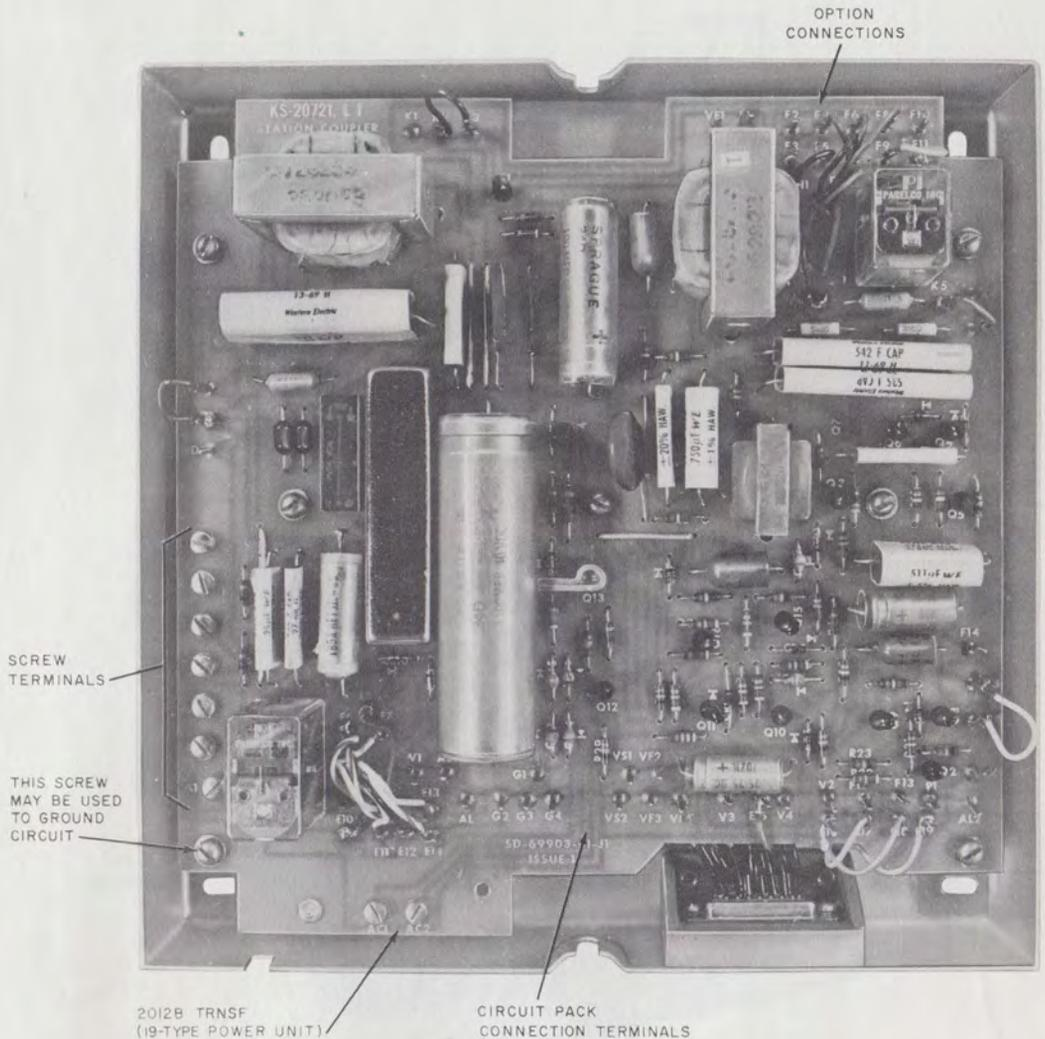
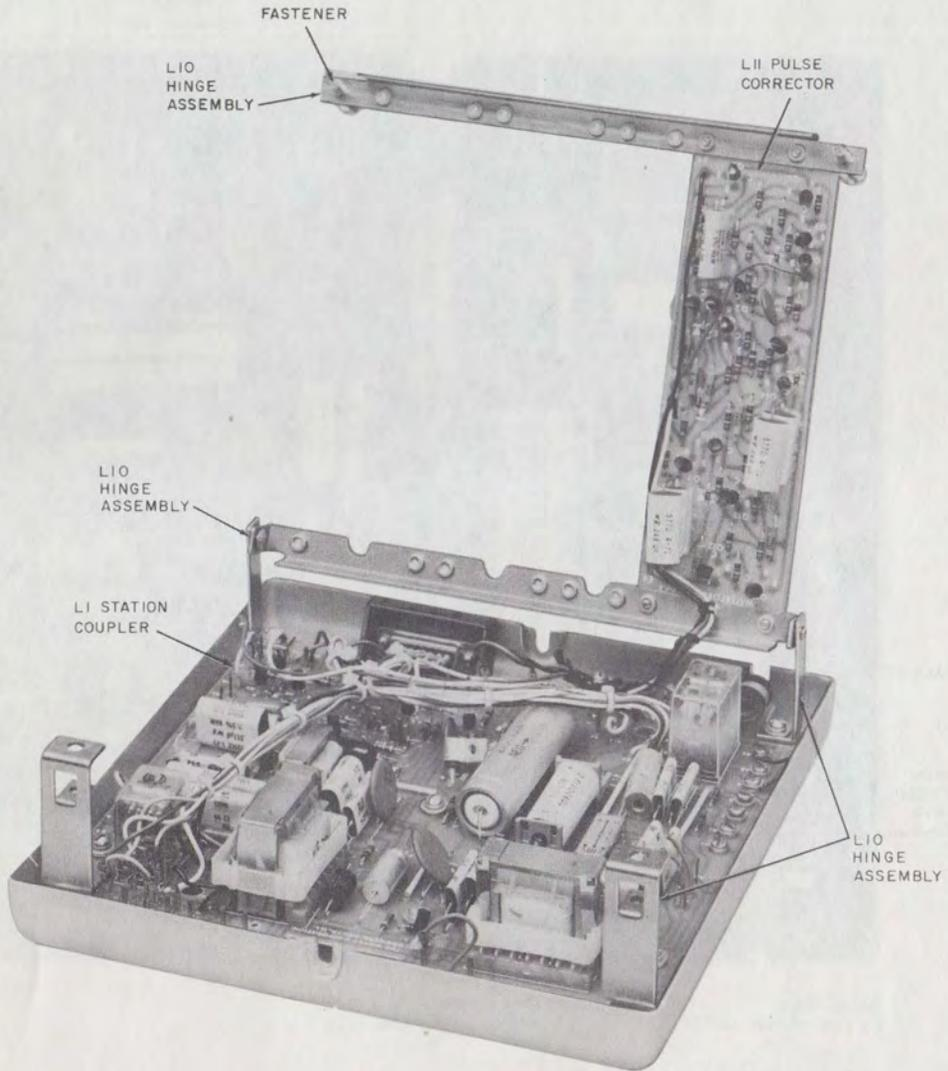

Fig. 2—KS-20721, List 1, Station Coupler, Cover Removed
Fig. 3—KS-20721 Station Coupler Showing Optional Circuit Pack
- Revise Fig. 3 and 6
- Assembly, Hinge, KS-20721, L10 (Fig. 3)
- 2.02** The KS-20721, List 1 station coupler (Fig. 2) is the basic unit, designed to be field equipped with a KS-20721, List 10 hinge assembly for mounting the optional circuit pack (Fig. 3). The circuit pack is equipped with quick connect connectors for easy installation.
(1) Remove the cover from the station coupler using the KS-19192, List 1 tool or screwdriver.
(2) Attach KS-20721, List 10 hinge assembly to the four corner screws mounting the List 1 board. Refer to Fig. 3.
(3) The installer can mount any combination of circuit packs on the internal mounting frame formed by the hinge assembly. Place board in correct position on frame (refer to Fig. 3 or cover label) and secure with four corner mounting screws furnished with circuit pack.
(4) Connect the flexible jumper leads on List 1 board to provide the options called for in Table A by using the connecting information given in Table B.
(5) Plug connecting leads from boards into corresponding terminals on List 1 board per Table B and Fig. 3 and 4. Dress leads to avoid